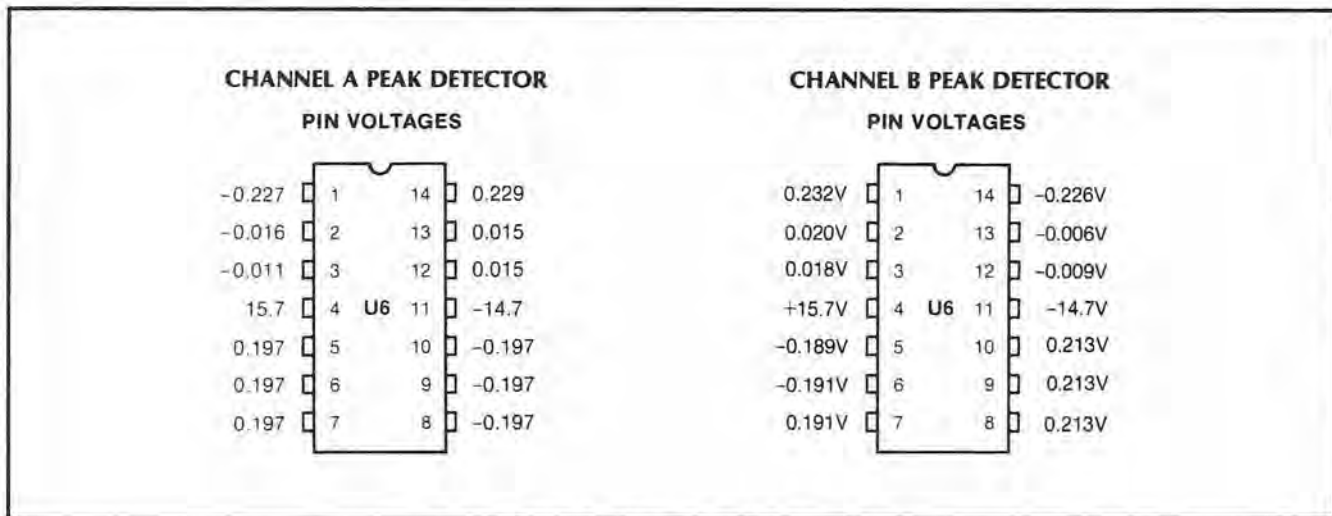

Figure 8-102. A12U6 and A12U1 Pin Voltages
d. Verify the APD line (channel A positive peak detector output) and AND line (channel A negative peak detector output), reflect the true peaks of signal, i.e., about $+230 \text{ mV} \pm 10 \text{ mV}$, and $-230 \text{ mV} \pm 10 \text{ mV}$, respectively. If this voltage is not present, check the voltages of A12U6 per *Figure 8-102* (in volts).